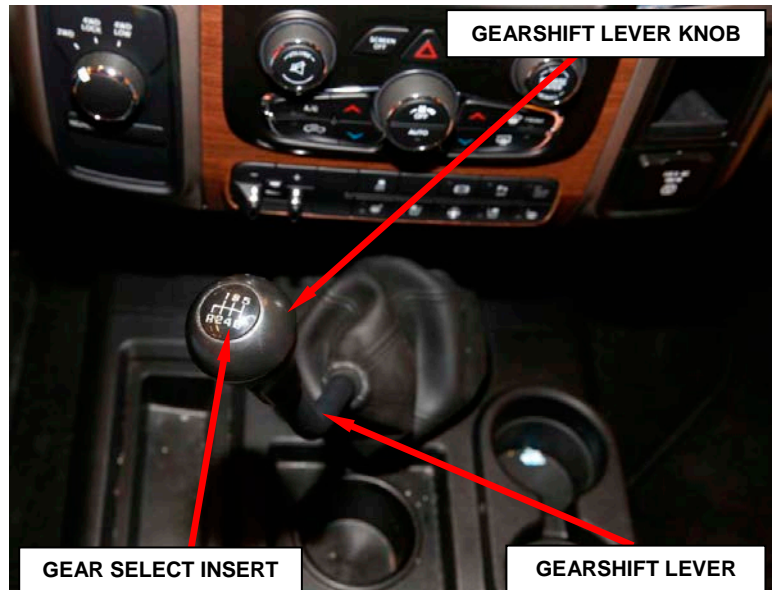

Figure 9 – Gearshift Lever
14. Push the gear select indicator insert into the gearshift lever knob (Figure 9).